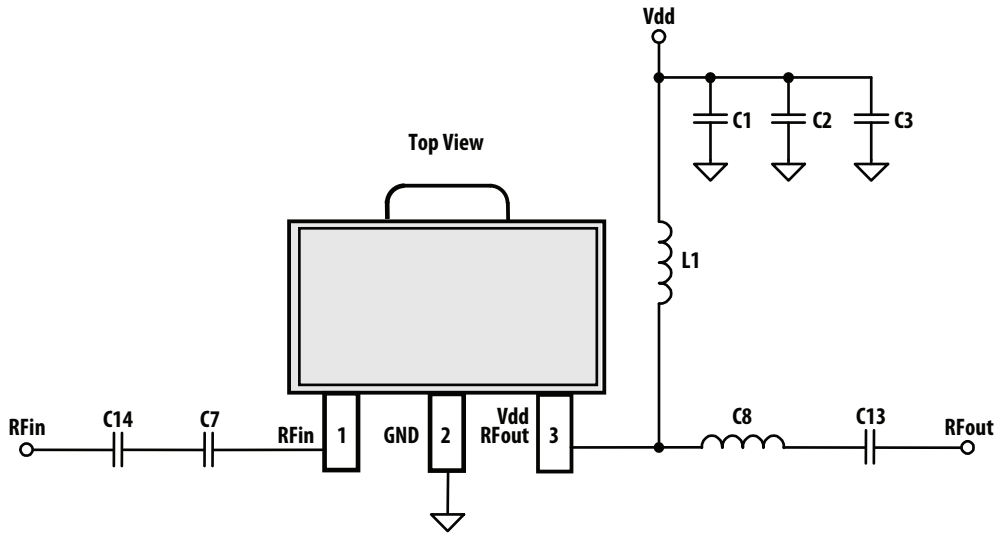

Figure 22. Application Schematic
1. Measurements obtained using demo board described in Figure 22 and 23. Both 3.5GHz and 5GHz data were taken with 3GHz - 6GHz Application Test Circuits.
$T_A = 25^\circ\text{C}$, $V_{dd} = 5\text{V}$, Input Signal = CW. Application Test Circuit is shown in Figure 22 and Table 1.
T_A = 25°C, V_{dd} = 5V, Input Signal = CW. Application Test Circuit is shown in Figure 22 and Table 1.
T_A = 25°C, V_{dd} = 5V, Input Signal = CW. Application Test Circuit is shown in Figure 22 and Table 2.
$T_A = 25^\circ\text{C}$, $V_{dd} = 5\text{V}$, Input Signal = CW. Application Test Circuit is shown in Figure 22 and Table 2.